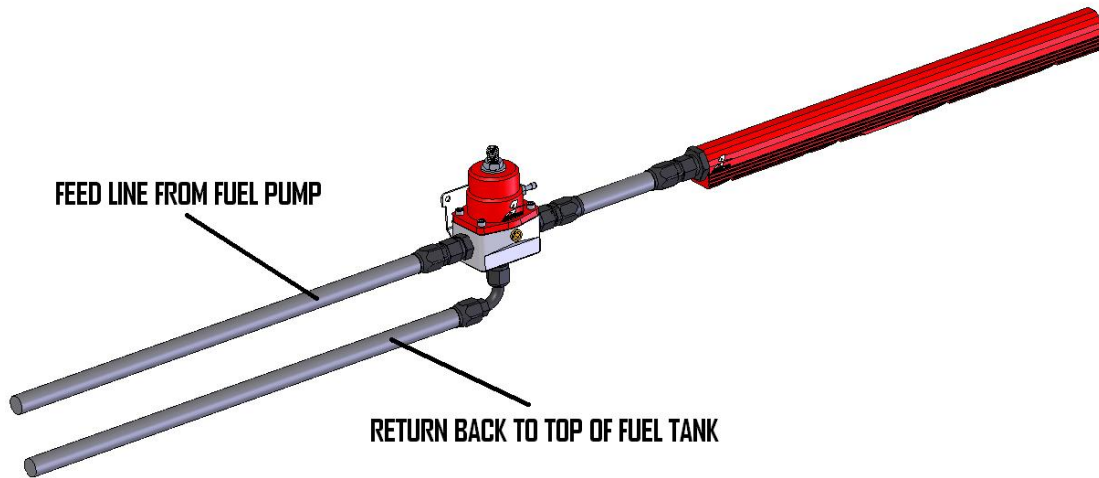

FIGURE 1-1
9. Figure 1-1 depicts a fuel rail with only one fuel line connection, such as used in late model "returnless" fuel systems beginning in 1999. Positioning the regulator after the fuel rail is optimum for performance applications, however your new Aeromotive regulator may be configured for a "returnless" type of engine/fuel rail by flowing into one of the regulator side ports from the pump and out of the opposite side port into the fuel rail. A return line must be routed from from the regulator bottom/return port back to the top of the fuel tank.